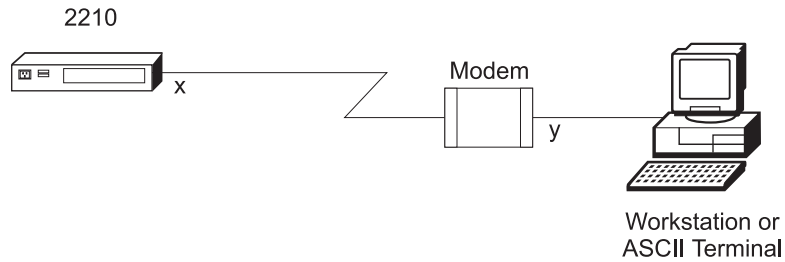
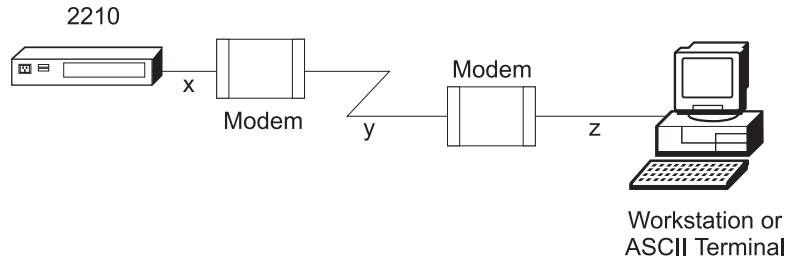

Figure 4-2. Remote Connection to 14.4 Kbps Modem Port Feature (14T and 24x Models)
Figure 4-3. Remote Terminal Connection to the Primary or Secondary EIA-232 Service Port
- Remotely using dial-in (over telephone lines) through a modem attached to the EIA-232 primary service port or the secondary service port, if installed. You can use an ASCII connection. The secondary service port can be either an EIA-232 Service Port Feature or a 14.4 Kbps Modem Port Feature. See Figure 4-2 on page 4-2 and Figure 4-3 on page 4-2.